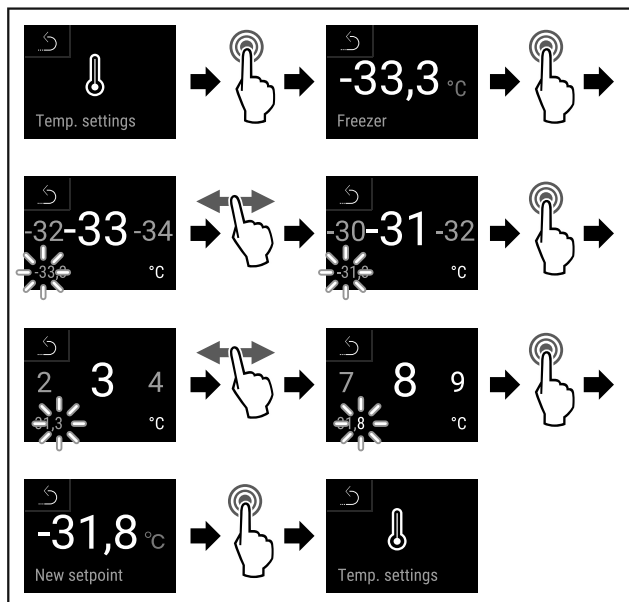

Fig. 91
- ▶ Complete steps (see Fig. 91).